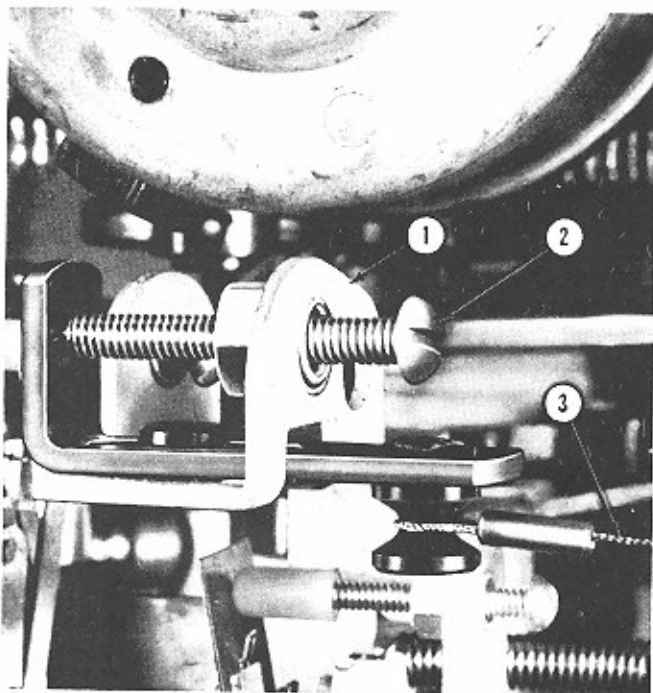

Fig. 90. TONE ARM BRUSH SETTING
(3) With the record changer mechanism in the "at rest position", turn the adjusting screw (Item 2, Fig. 90) for the tone arm brush to take up or release the actuating cable as required to position the brush 1/4" to 1/2" below the cartridge.